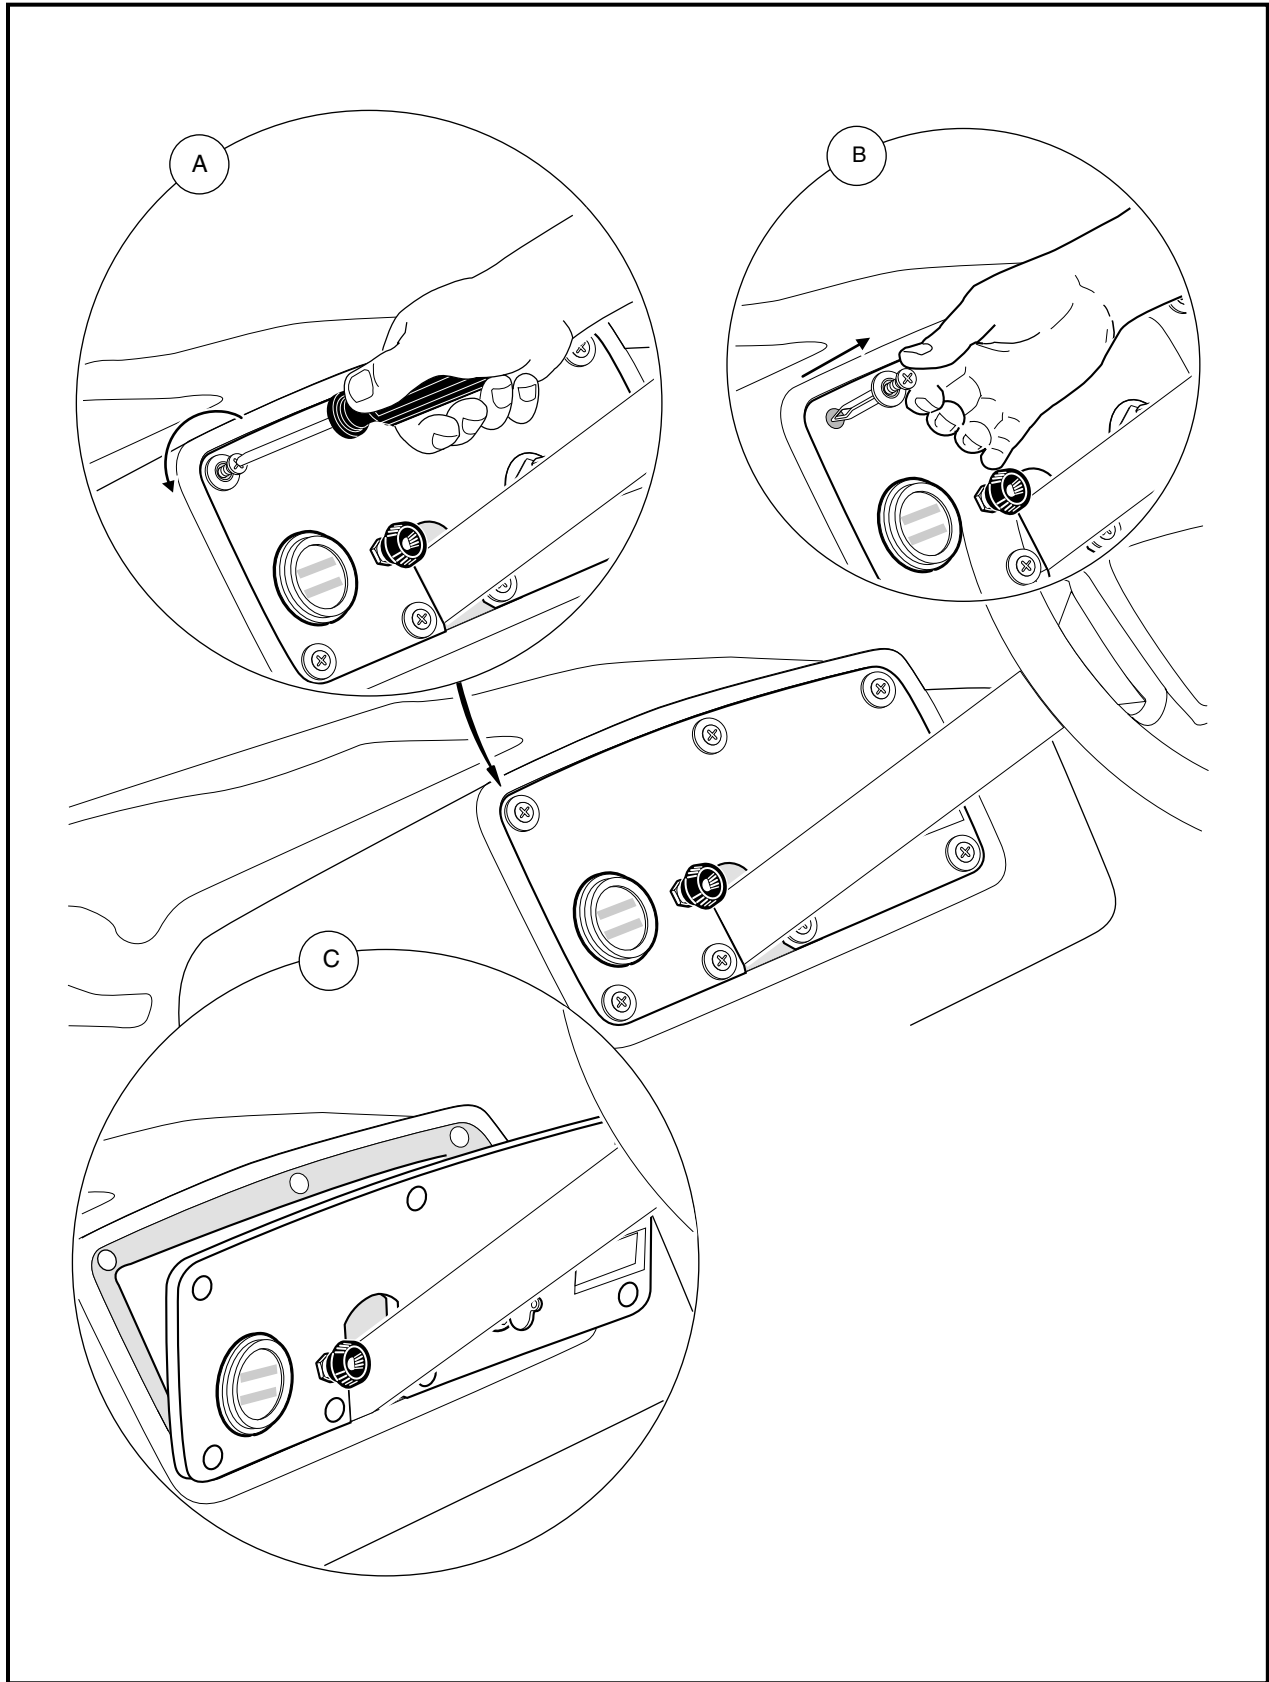

Figure 4-1 Dash Panel Removal
- 2.1. Loosen the seven Tuflok® screws around the panel, but do not remove the screws completely, as shown in Detail A (**Figure 4-1, Page 4-5**).